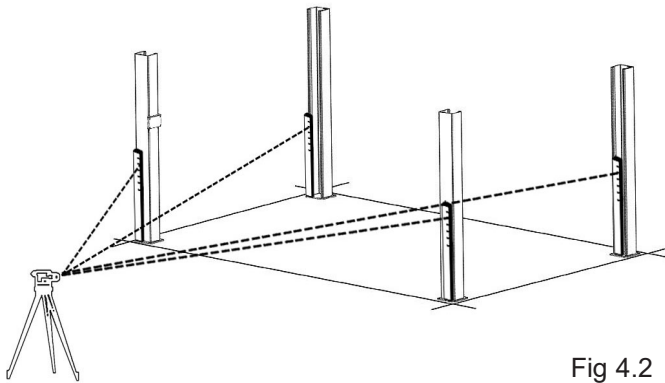

Fig 4.2
2. To estimate the shim requirements, place a target on floor at each Column position and record the readings. Find the highest of the four locations then find the difference between each of the remaining Columns. This difference is the estimated amount of shim thickness that will be required at each Column. (See Fig. 4.2)